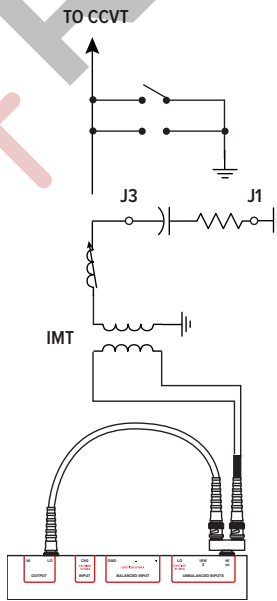

FIG 2 - SERIES INDUCTOR TEST CONNECTIONS
8. Connect the Model 730 red terminal (J3) to the output of the series inductor and the black terminal (J1) to ground (See Fig. 2). This connects the test box for resistance and capacitance.